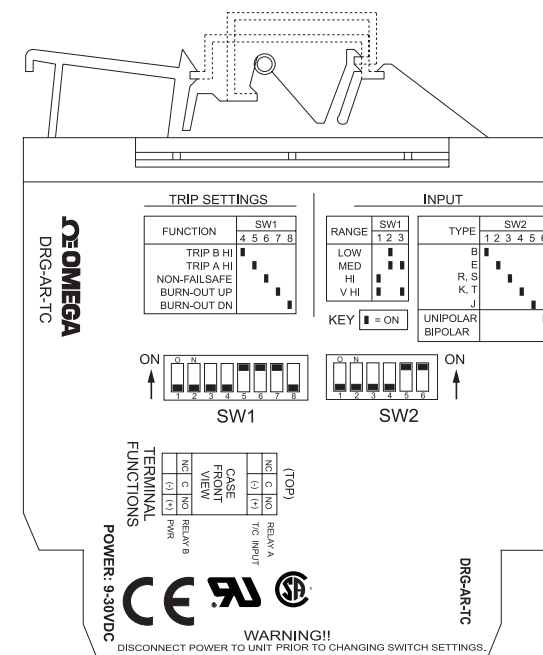

Figure 5: DRG-AR-TC Factory Calibration: J-Type, 0 to 350°C, A-HI/B-LO, non-failsafe
1. After configuring the DIP switches, connect the input to a calibrated TC source and apply power. Refer to the terminal wiring (Figure 5).